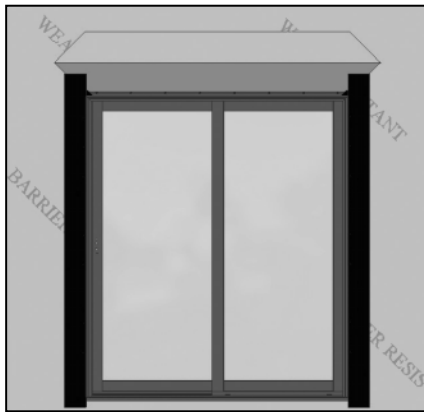

FIG. 20
- A) Cut and apply side flashing. Side flashing should run from the bottom of the sill flashing to 4" above the rough opening. (Fig. 20)